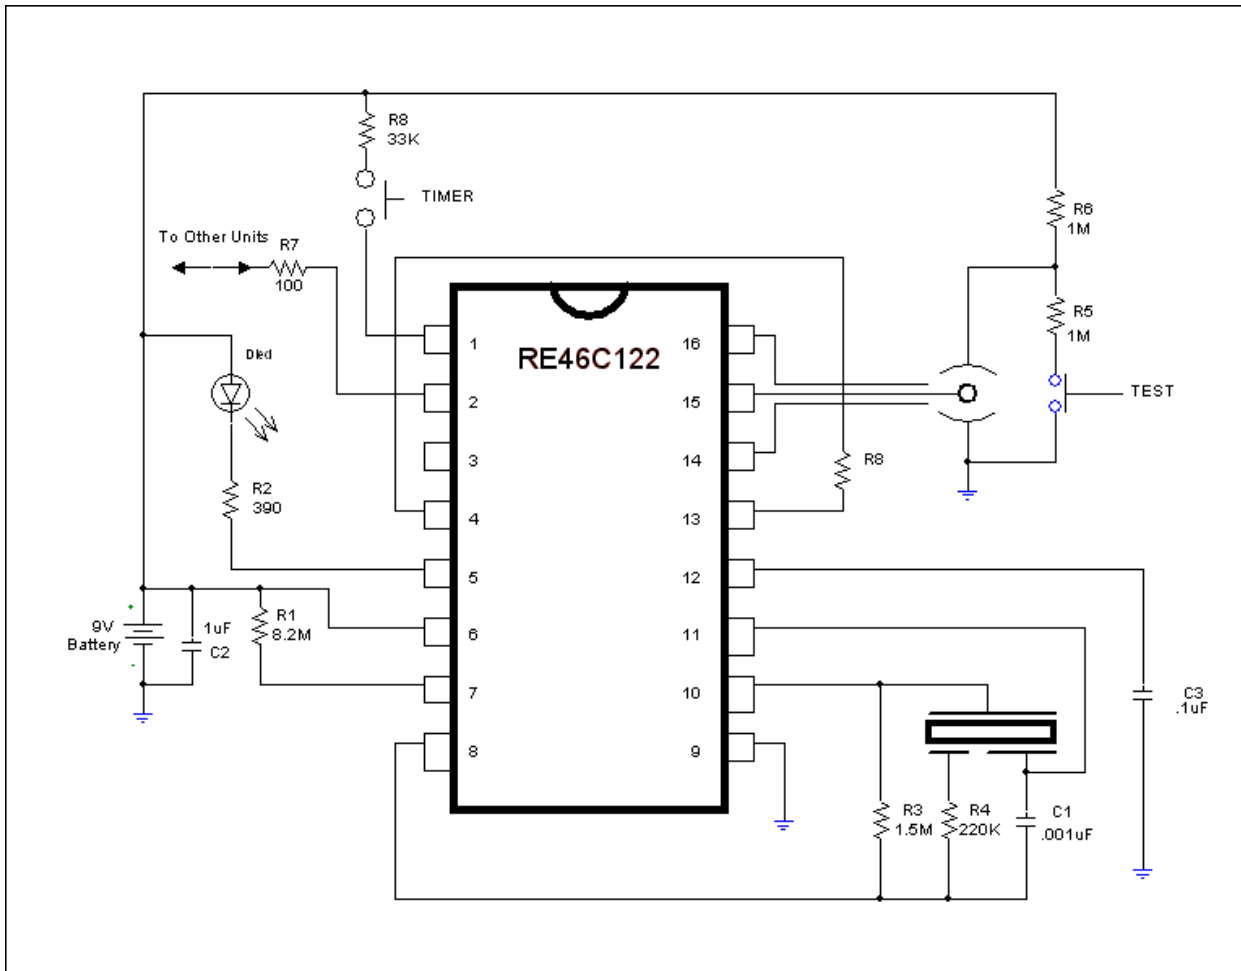

Figure 2
**The application of the internal 10 minute timer for reduced sensitivity as shown in Figure 2 may be covered by United States patent RE. 33920.**